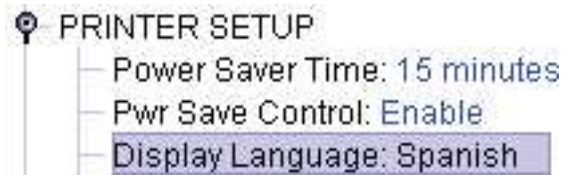

Figure 57 Toggling Through The Available Options
4. Double-click an item to open the Menu Editor (page 66) for that item, or use the < and > keys to toggle through the available options. See Figure 57. (You may change these keys in the printer database window: select **File ► Preferences**, then click the **Configuration Editor** tab. See page 27).